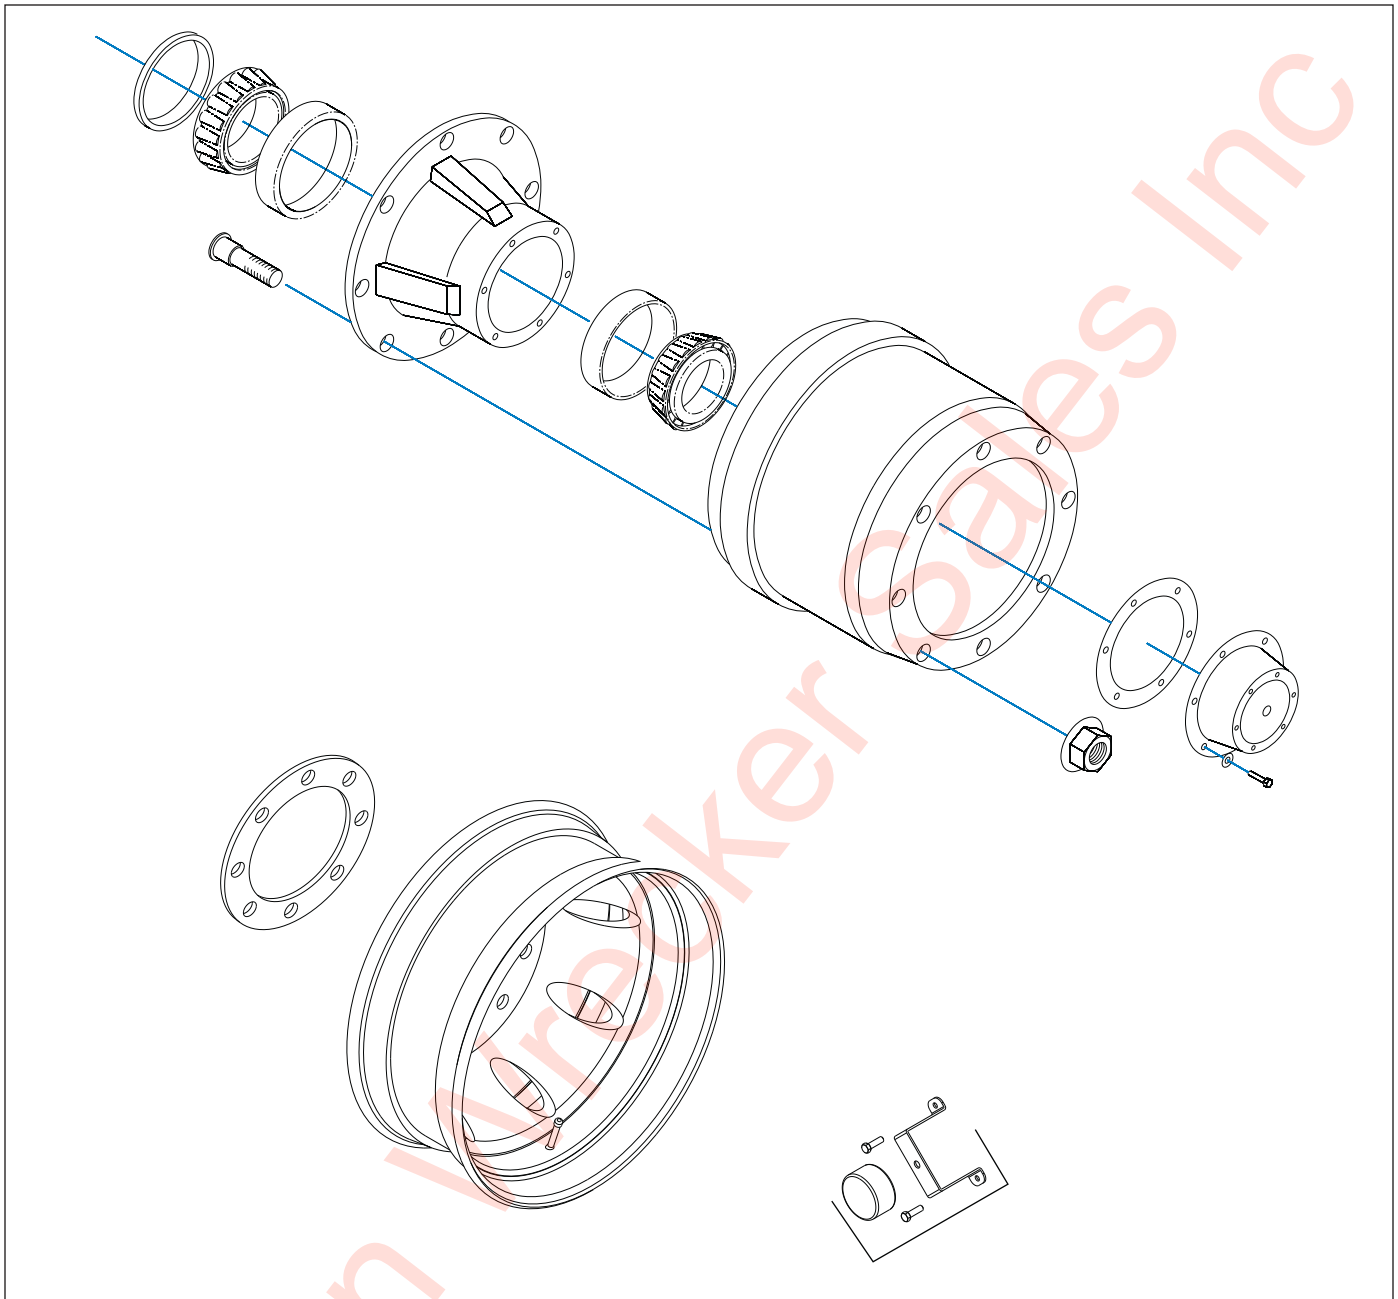

Figure 4-13: Outboard Mount Hub and Drum
3. Remove drum assembly (*See Figure 4-13*)
4. Replace the hub and drum as follows: (*See Figure 4-13*)
- i. Place the drum over the hub and brake shoes being careful not to damage the threads on the studs (*See Figure 4-13.*) Make sure the drum seats flat against the hub flange and mates properly with the hub pilot. There should be no interference between the brake drum pilot chamfer and the corner radius on the hub. If interference exists, the hub will not be able to function properly.
- k. If studs are marked "R" or "L", right hand (®) hubs should be installed on the curbside of the vehicle, left hand (L) hubs should be installed on the driver side.